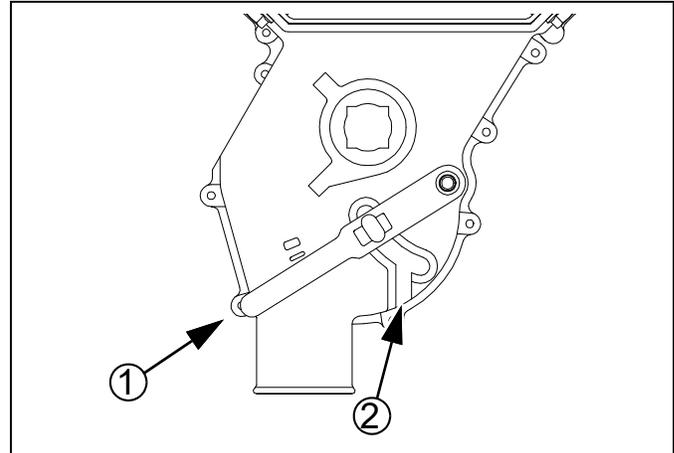

Figure 23
Refer to Figure 23, which depicts the seed cup door handle ① in a normal operating position.
1. Set the Seed Rate Handle to zero (0) for the section of the drill to be cleaned out. This moves the seed cup sprockets out of the seed path.
3. At the seed cup for that row, pull the door handle ① out of the operating detent range, and swing it down to position ②.